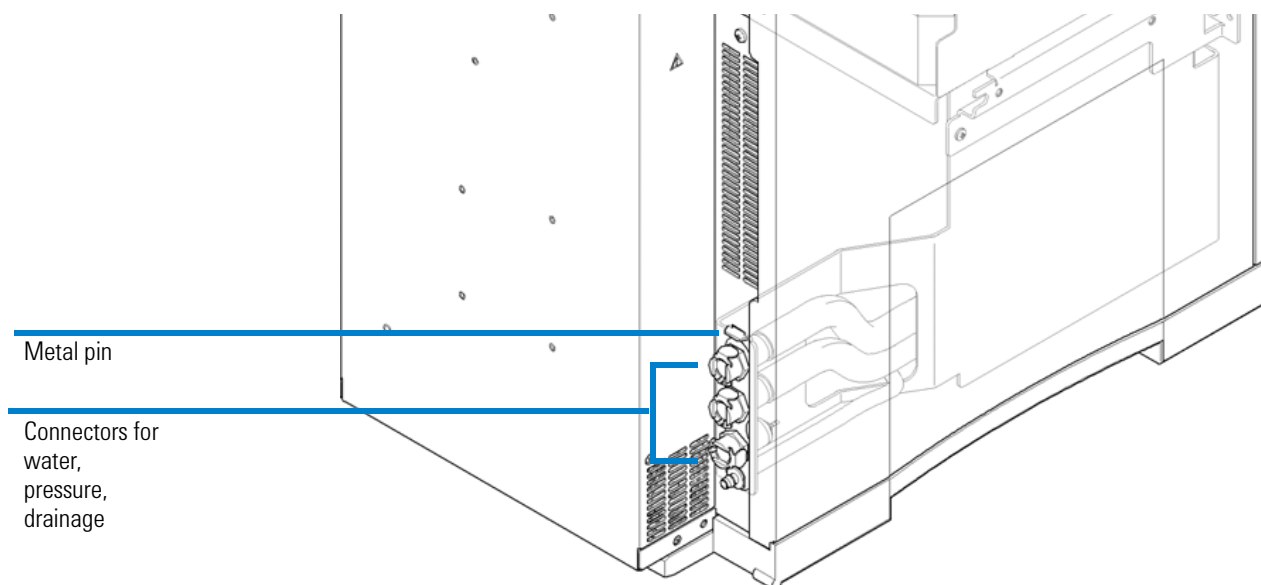
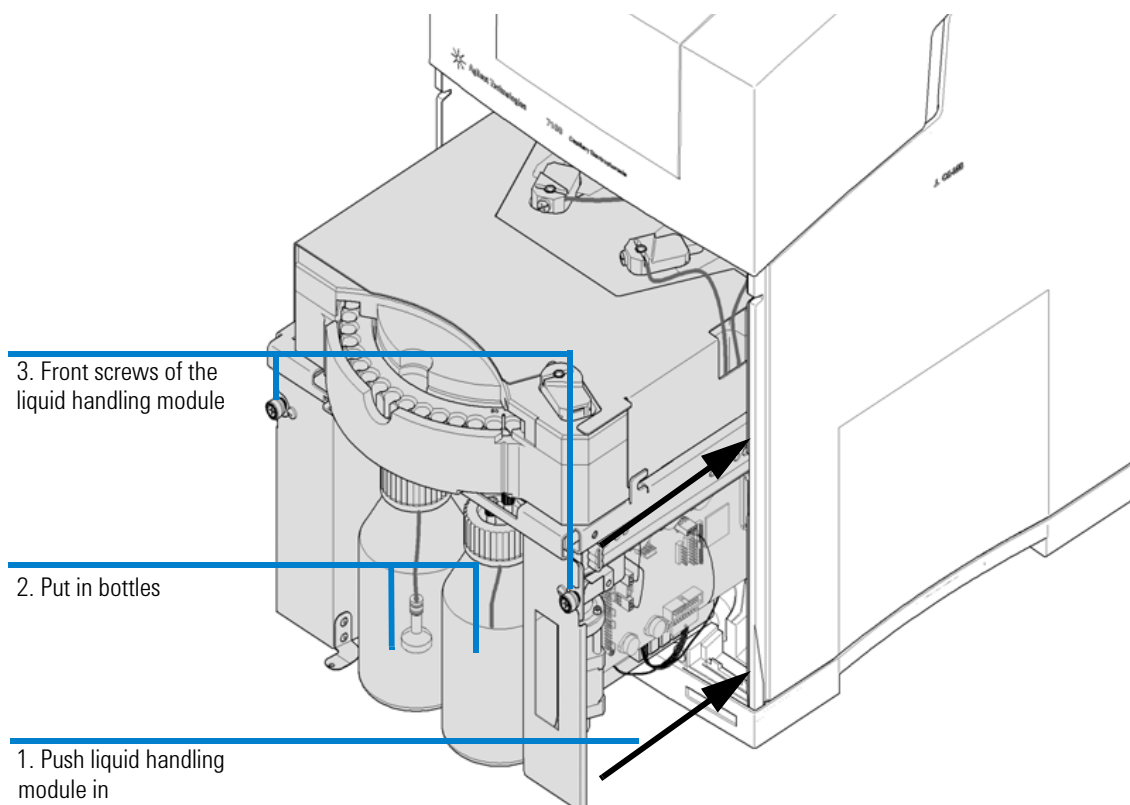

Figure 69 Rear side of liquid handling module
Figure 70 Liquid handling module
- 9 Push the liquid handling module back into the instrument as shown in Figure 70 on page 213. To release it from the front position, slightly more force is needed. Carefully move the liquid handling module completely into a position that allows fixation. Please note the metal nose from the liquid handling module which has to fit in a hole of the back metal sheet as shown in Figure 69 on page 212.